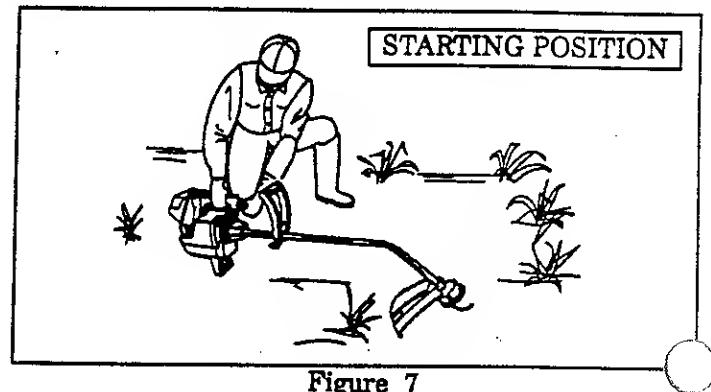

Figure 7
- Extend line approximately 6 inches from Trimmer Head to provide adequate load on engine. Figure 7.
- Rest Engine and Shield on ground, supporting Trimmer Head off ground away from trees, bushes, onlookers, etc. Figure 7.